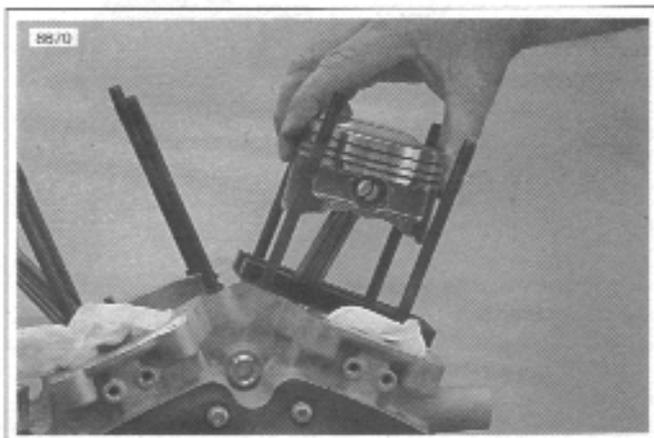

Figure 3-106. Piston Support Plate (Part No. HD-42322)
1. See Figure 3-106. Place PISTON SUPPORT PLATE (Part No. HD-42322) in position as shown.